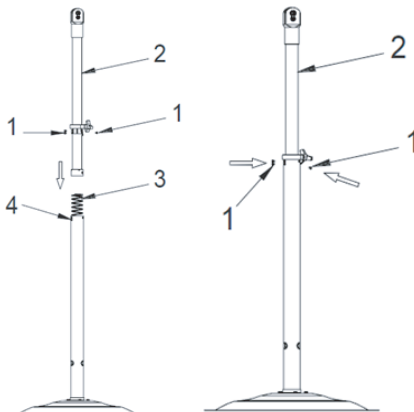

Fig. 3.
2. Loosen and remove the three screws (1) on the upper pole (2). Place the spring (4) into the lower pole (4). Insert the upper pole (2) into the lower pole (4), making sure the holes are aligned. Insert the three screws (1) into the lower pole (4) and tighten them. Adjust the height of the upper pole (2) as desired and secure using the adjusting knob. See Fig. 3.